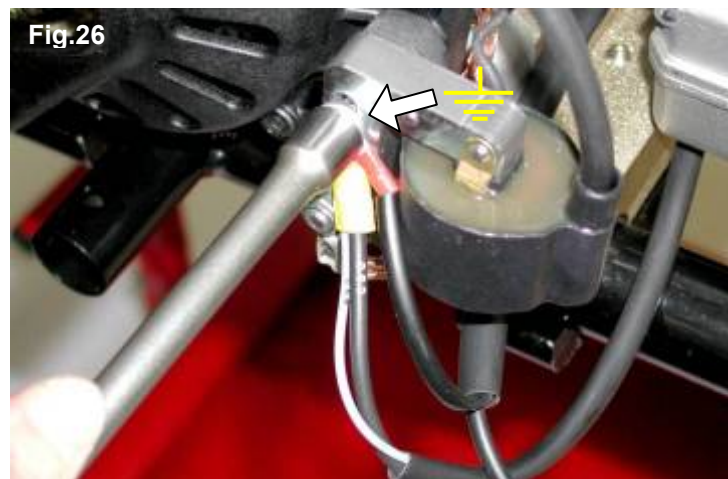

Fig.26
2.9.7 FASTEN THE 2 TERMINALS GROUND CABLES WITH EYELET, TO THE H.T. COIL WITH THE M6 FIXING NUT (SEE FIG.26).